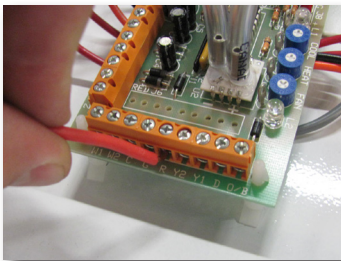

Fig. 8a
8. Re-wire thermostat connections, line in and ground wires to the air handler. (Figs. 8a, 8b)